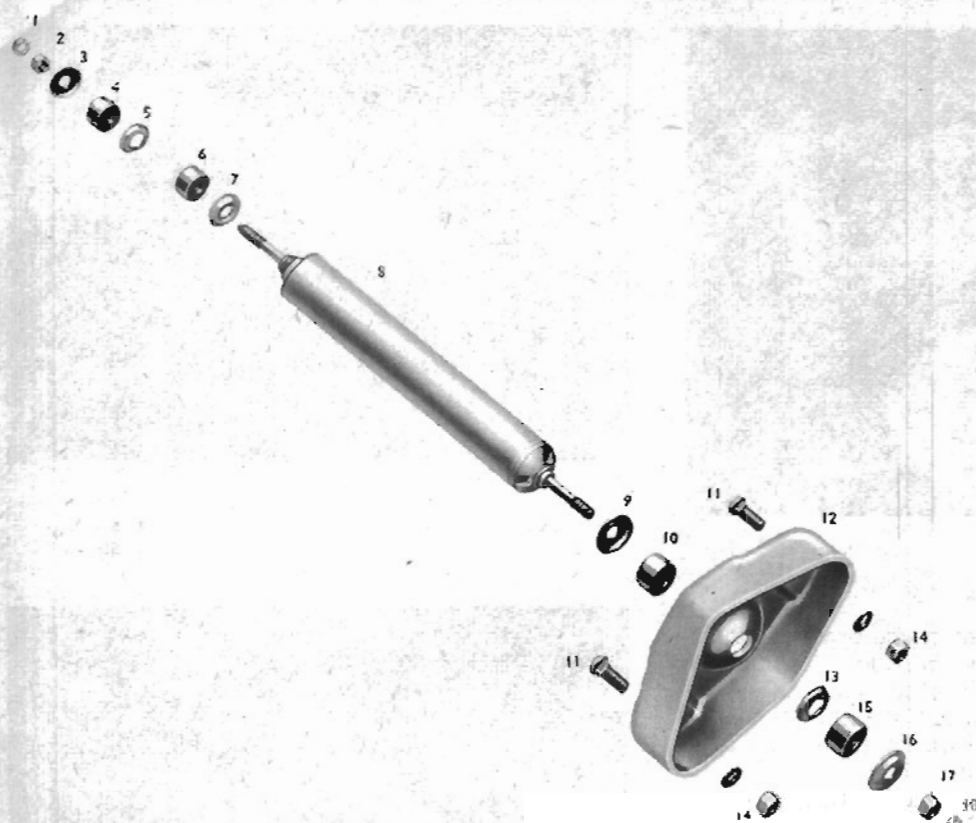
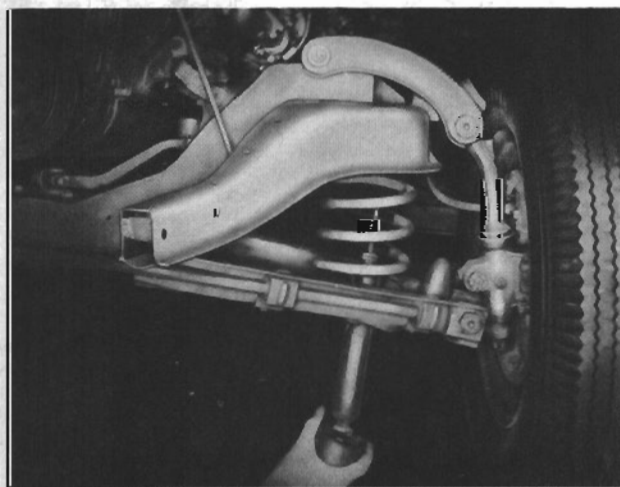

FIG. 9
FIG. 10
To remove the front shock absorber, first remove the lock nut (1, Fig. 9) and retaining nut (2) at the
Remove the grommet retainer (3), grommet (4), and grommet seat (5). Remove the two mounting plate retaining bolts (11) and thread the shock absorber out of the spring (see Fig. 10). Remove the grommet (6), Fig. 9) and grommet retainer (7) from the shaft at the upper end of the shock absorber. Remove the lock nut (18), mounting plate retaining nut (17), grommet retainer (16), grommet (15), grommet seat (13), and mounting plate (12). Then remove the grommet (10) and retainer (9) from the end of the shock absorber.
Install the grommet retainer (9, Fig. 9) and grommet (10) on the lower end of the shock absorber. Position the mounting plate (12) on the shock absorber and install the grommet seat (13), grommet (15), retainer (16), retaining nut (17), and lock nut (18). The retaining nut and lock nut should be installed so the top of the lock nut is flush with the end of the threads. Install the grommet retainer (7) and grommet (6) on the upper end of the shock absorber. Position the assembly within the spring. Install the retaining bolts (11) and nuts (14), and tighten securely. Make sure that the bolts are seated in the control arm. Install the grommet seat (5), grommet (4), and retainer (3). Install the retaining nut and lock nut (1), holding the shock absorber with a wrench on the flats provided. When properly tightened, the top of the lock nut should be flush with the threads on the shaft.